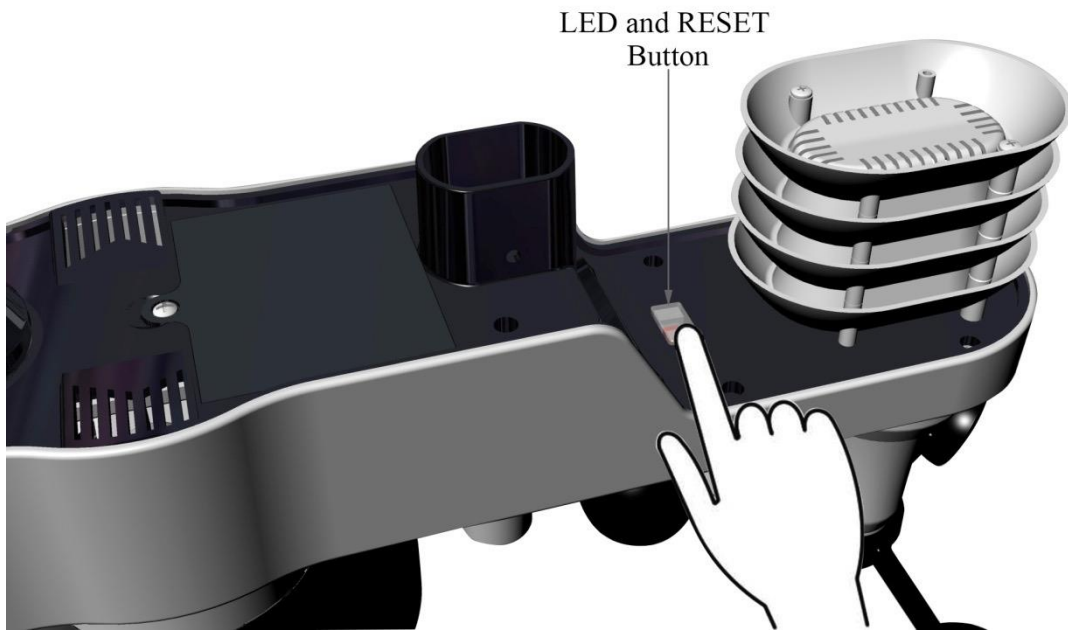

Figure 6
**Note:** If the sensor does not power up after inserting the batteries, press the Reset button shown in Figure 6 below.